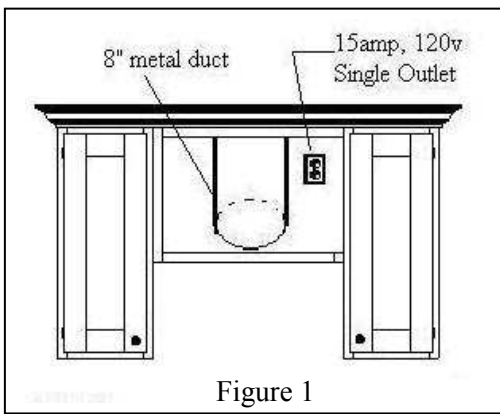

Figure 1
- Make sure you have a 15amp, 120V, 60Hz, single outlet on the left or right of the duct pipe (usually is on $\frac{1}{4}$ of cabinet width). See Figure 1